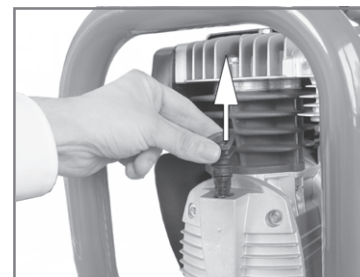

Figure 2
1. Lift the dipstick out of the oil reservoir. See figure 2.